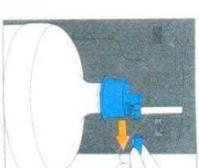

Figure 3-1
3. Disconnect the water line from the bottle adaptor (fig.3-1)